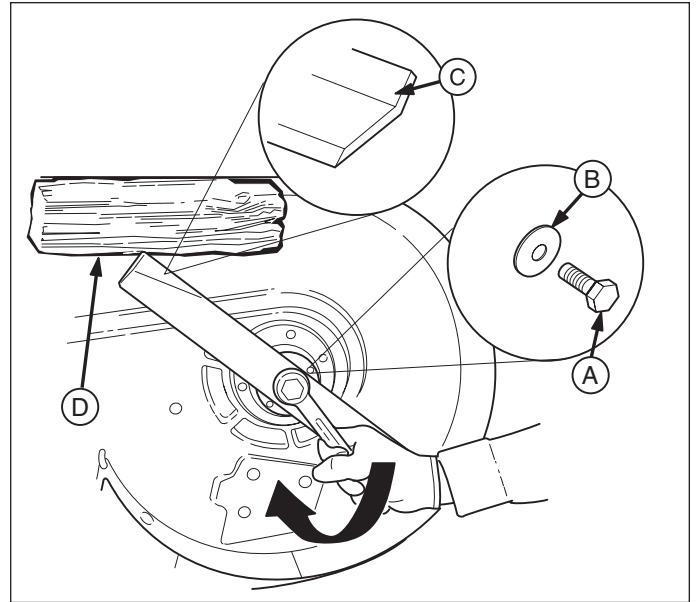

Figure 8. Mower Blade Installation
1. Check that blades are installed with the tabs pointing up toward deck as shown in Figure 8. Secure with a capscrew, spring washer and spline/hex washer (be certain the spline/hex washer is aligned with the shaft). Use a wooden block to prevent blade rotation and torque capscrews to 45-55 ft.lbs. (61-75 N.m.).